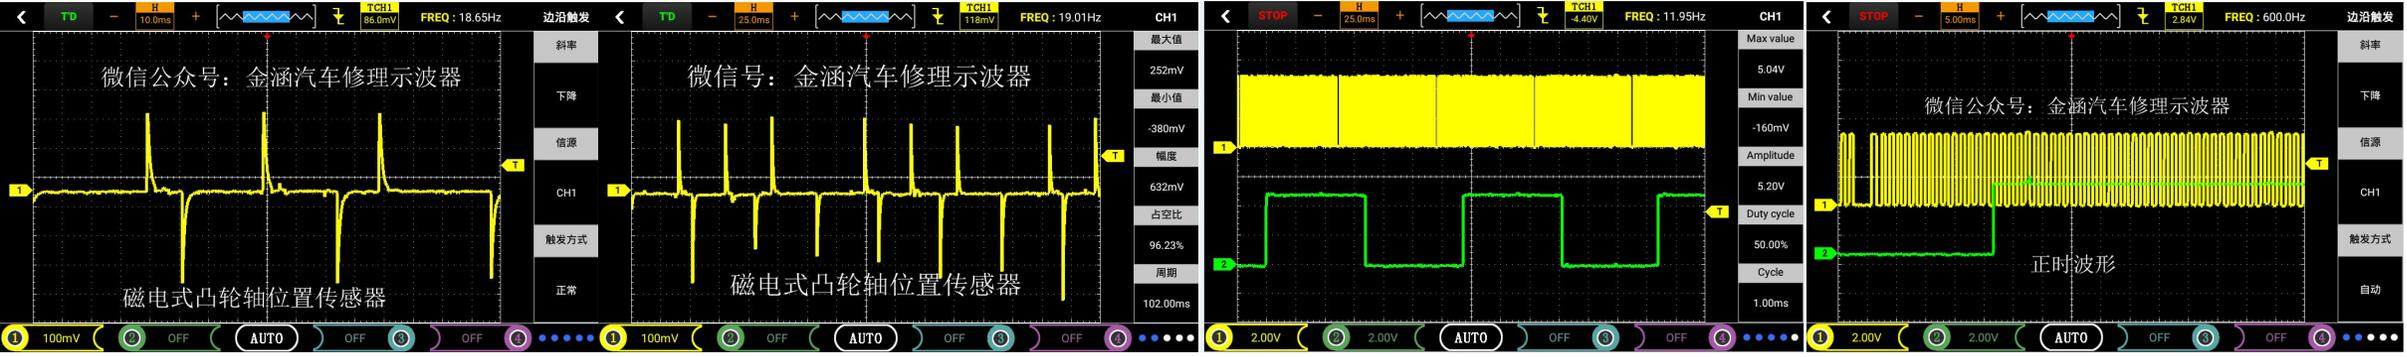

Figure 13
⑤ Click CH1 to view the various numeric configurations (the configuration is default).
⑥ The waveform can realize its own requirements by adjusting the time base vertical volt/lattice and triggering mode (time base vertical volt/lattice and other specific operation methods refer to the general oscilloscope operation).
- ① Same as the crankshaft position sensor.
- ② After entering the main menu interface, select "Sensor", then enter the sub-menu and click on "Crankshaft, camshaft position sensor" to enter the secondary submenu. Click "Magnetic" or "Hall type" to enter the oscilloscope interface. (Note: If the oscilloscope interface is stuck, wait for a few seconds to enter.)
- ③ Connect the two probes to the oscilloscopes CH1 and CH2 and set the probe to 1X, and then ground the signal to ground or ground.
- ④ Since the "Magnetic" and "Hall" functions of the oscilloscope have been set by default (probe 1X, time base 10.0ms), simply connect the two probes to the corresponding signals to visualize the waveforms, as shown in the figure 13.